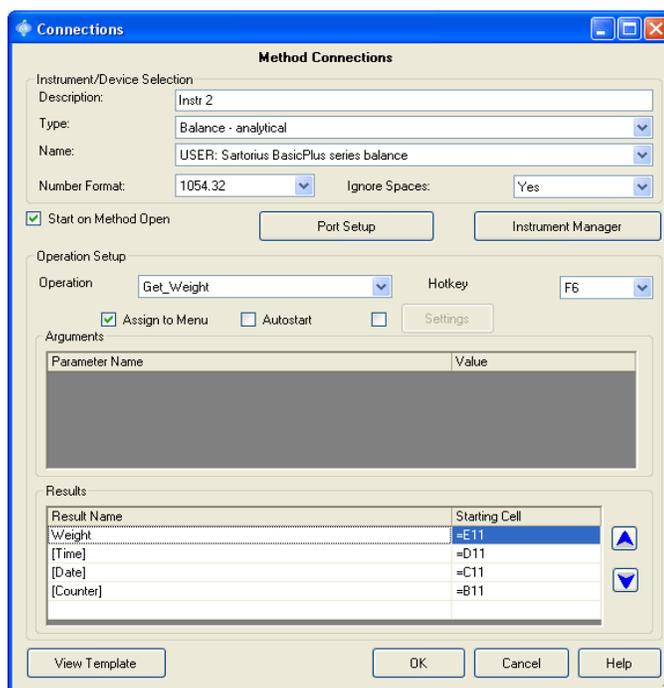

Figure 3.6: Connections dialog
2. A [Connections] dialog similar to the example in Figure 3.6 will appear.
To save the changes to the [RS232 Collector] dialog box, click on the **'OK'** button and **'OK'** in the [Collector Selection] dialog box. To disregard the changes, click on the **'Cancel'** button. Both will cause the [Connections] dialog (see Figure 3.6) to return.